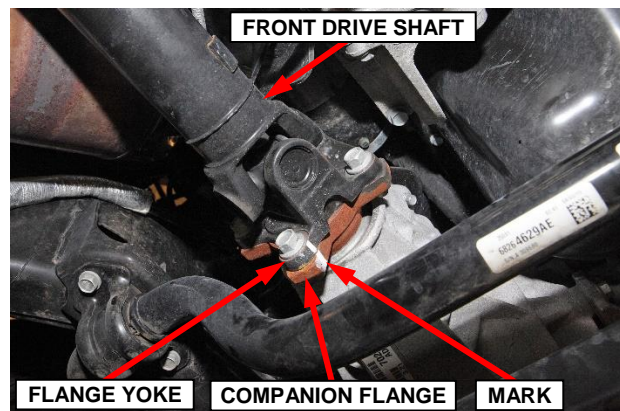

Figure 7 – Mark Front Drive Shaft
12. Mark a line across the front axle companion flange and front drive shaft flange yoke for drive shaft installation reference (Figure 7).